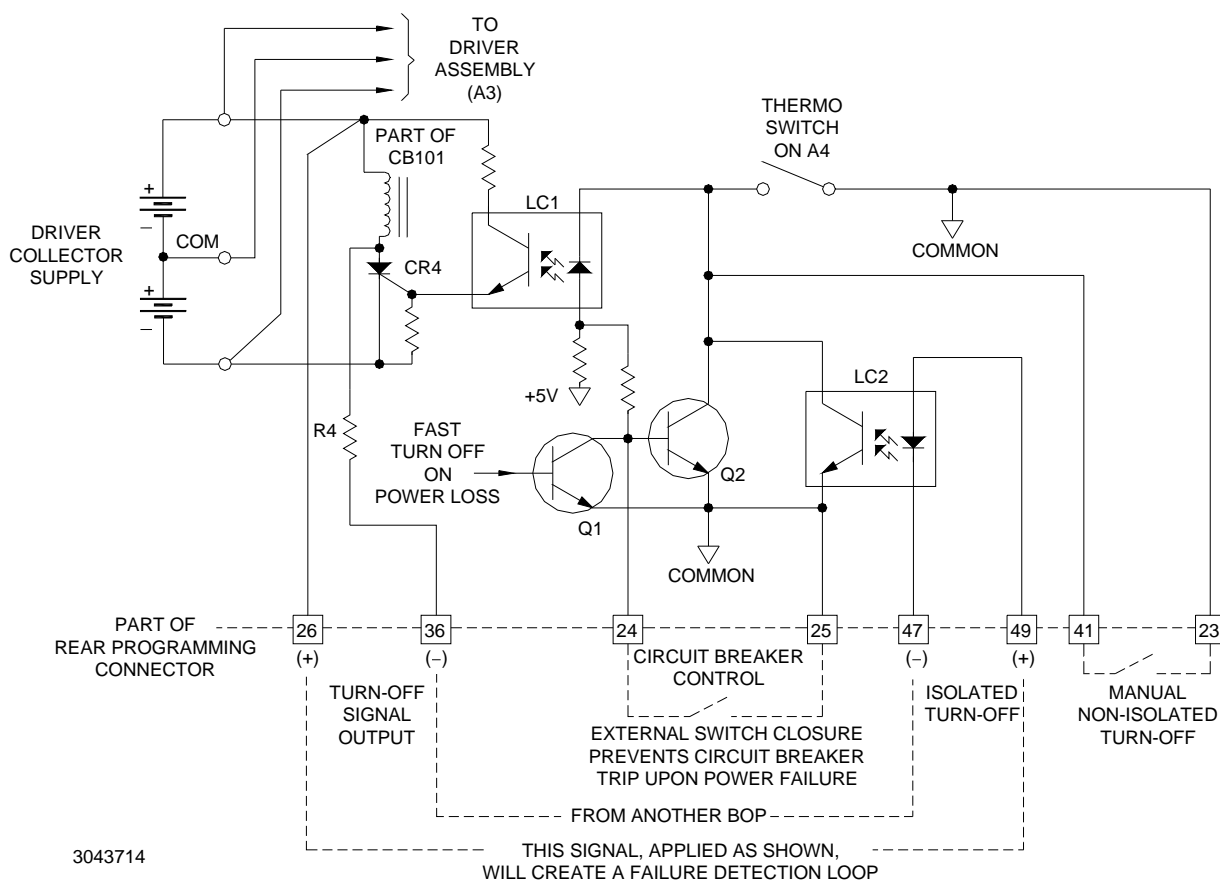

FIGURE 3-25. CIRCUIT BREAKER CONTROL CIRCUIT, SIMPLIFIED DIAGRAM.
The BOP is protected by the dual-coil circuit breaker/ON-OFF switch (CB101) as shown in Figure 3-25. The current sensing coil of CB101 is connected in series with the primary winding of T201, thus detecting overcurrent reflected into the primary circuit and subsequently tripping the circuit breaker. The voltage sensing coil of CB101 is connected in series with an SCR (CR4) across the driver collector supply. If the SCR is triggered on, the voltage sensing coil is energized and trips the circuit breaker. The SCR (CR4) can be triggered in several ways:
- A manual, non-isolated turn-off is provided which, when implemented with an external switch contact as shown in Figure 3-25, will energize the diode in the first optocoupler (LC-1), thus providing the SCR turn-on.